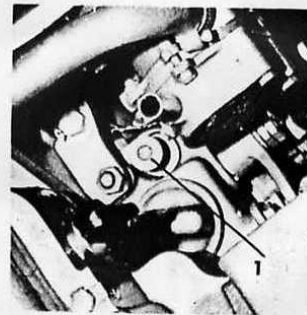

fig 2
- 2) Pull excess fuel device button (1) upwards (see fig. 2)